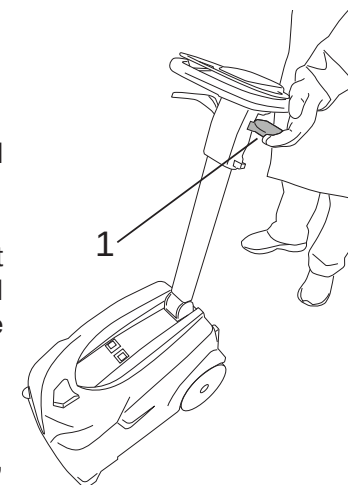

Fig.18
This machine can dry the floor moving both forward and in reverse. To operate the drying function in reverse, pull the lever upwards (fig. 18, ref. 1).